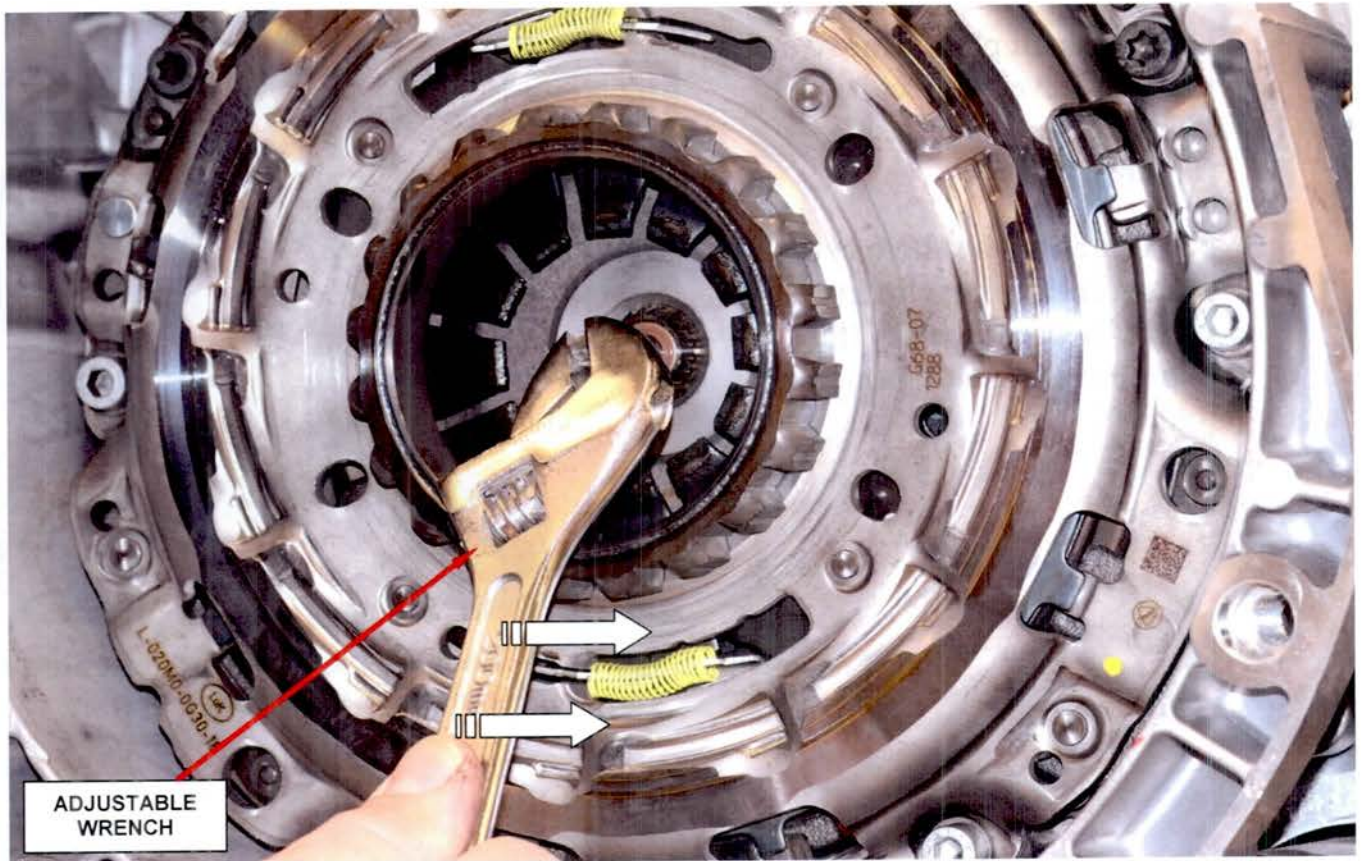

Figure 14 – Loosen the Slave Cylinder Rod
43. Using an adjustable wrench, turn the slave cylinder rod approximately $\frac{1}{2}$ turn counterclockwise to break the slave cylinder rod loose from the slave cylinder piston (Figure 14).